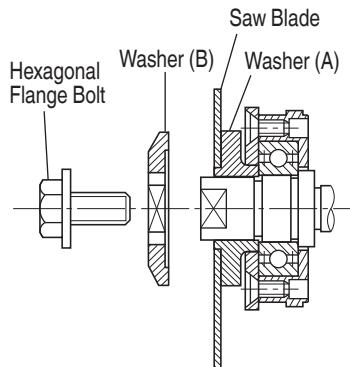

Fig. 14
2. Mounting the Saw Blade (Fig. 14)
- (1) Thoroughly remove any sawdust which has accumulated on the spindle, bolt and washers.
- (2) For mounting saw blade, the concave sides of both washers (A) and (B) must be fitted to the saw blade sides. Mount the saw blade on the spindle, and finally affix washer (B) (See Fig. 14)
- (3) To assure proper rotation direction of the saw blade, the arrow direction on the saw blade must coincide with the arrow direction on the blade cover.
- (4) Using the fingers, tighten the hexagonal bolt retaining the saw blade as much as possible. Then depress the lock lever, lock the spindle, and thoroughly tighten the bolt.
- (5) Confirm that the lock lever is in the original position.